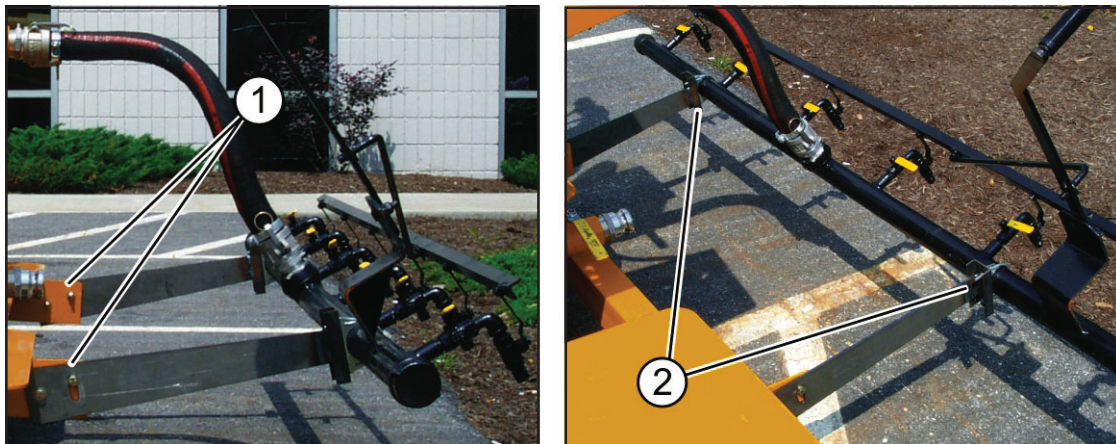

Figure 2-7
Ball valve #3	Controls the spray bar, also called the distributor bar (see Figure 2-7). This valve needs to be open when spraying.
- Set the nozzles so that they are 18 to 22 inches above the surface to be sprayed. You can adjust the height by loosening the four bolts by which the spray bar brackets are attached to the machine (1, Figure 2-7).
- Adjust the spray bar by loosening the two U-bolts by which the spray bar is attached to the brackets so that the nozzles are at a 45-degree angle to the surface to be sprayed (2, Figure 2-7).